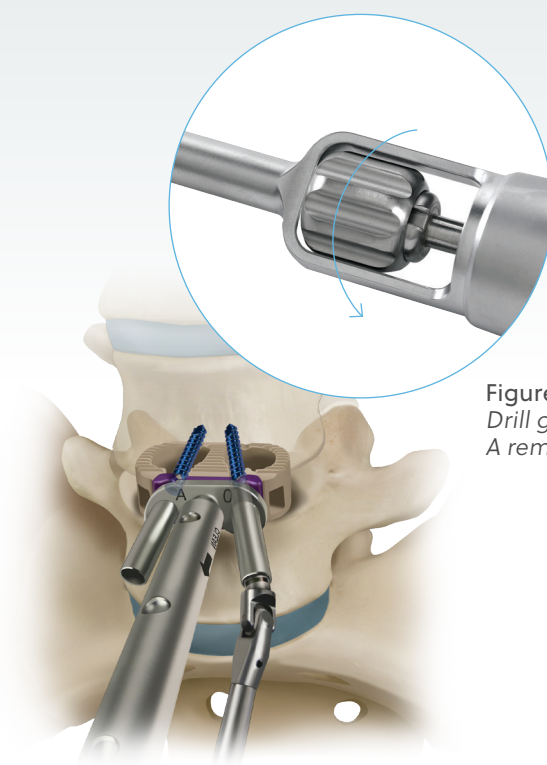

Figure 12:
- Remove drill guide A by turning the inserter handle thumbwheel counterclockwise (**Figure 12**).